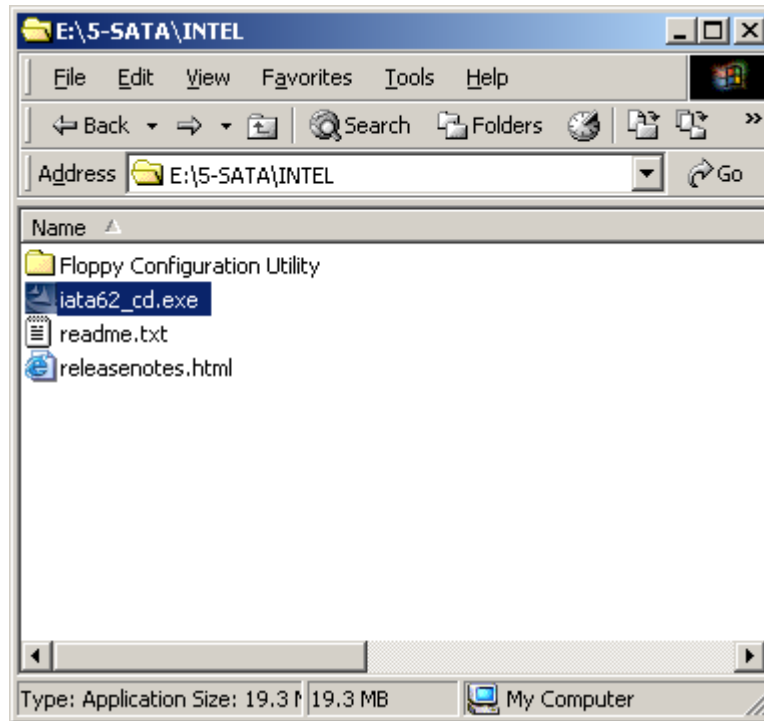

Figure 7-34: SATA RAID Setup Program Icon
Step 4: Double-click the **iata62_cd.exe** program icon in **Figure 7-34**.